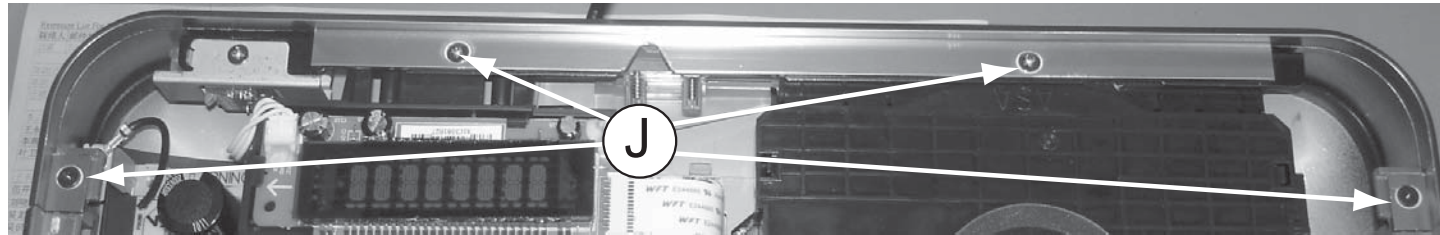

Figure 12
- 1) Loosen 4 screws "J" as shown in figure 12.